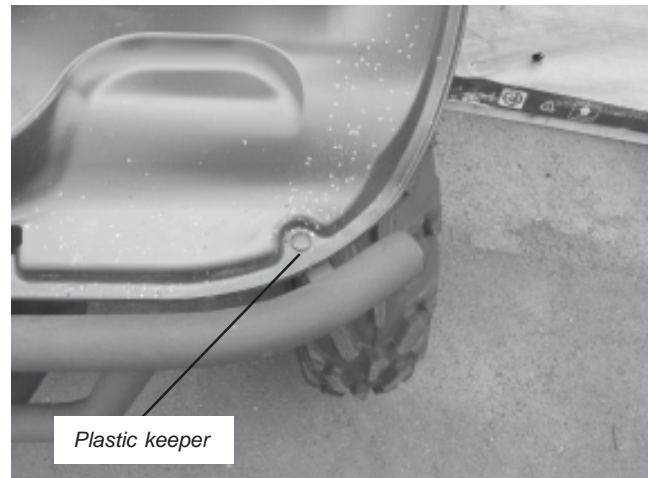

Figure 5
4. Removed plastic insert/keeper on top of plastic shroud on each side of bumper as shown in Figure 5. Carefully pry out with a screwdriver as these will need to be reinstalled later.